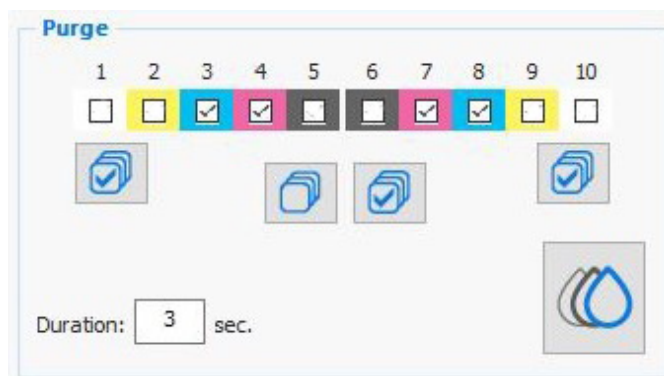
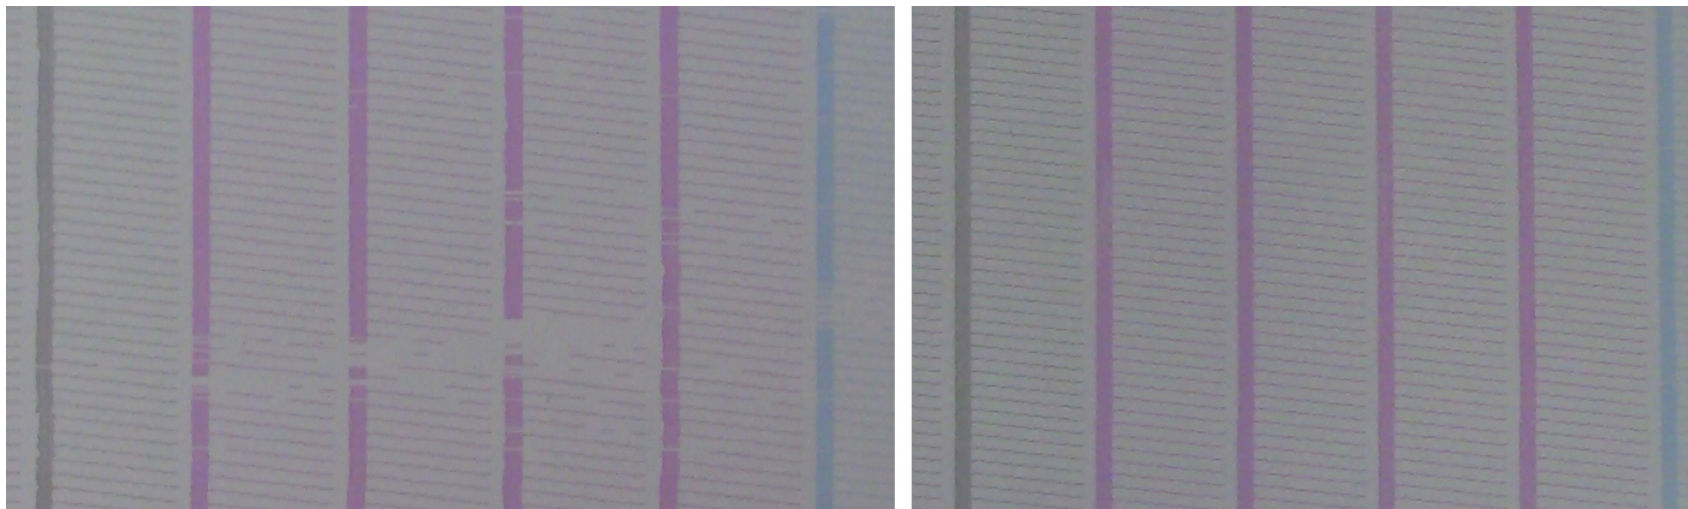

Figure 4-6 Purge section, only Magenta and Cyan channels selected
Figure 4-7 Nozzle Test - Nozzles Out, (Left) and Acceptable Nozzle Test after Wiping, (Right)
14. From the printer front end, print a **Nozzle Test** and analyze, Figure 4-7.
- If Nozzle Test is **not acceptable**, proceed to Perform print head care., focusing on those color channels indicating nozzle out or nozzle misdirects, Figure 4-6.
EXAMPLE: The magenta and cyan channels both displayed Nozzle Out conditions in Figure 4-7. The operator cleared the white, yellow, and black channels to purge only the magenta and cyan print heads, Figure 4-6, and used a wet wipe.